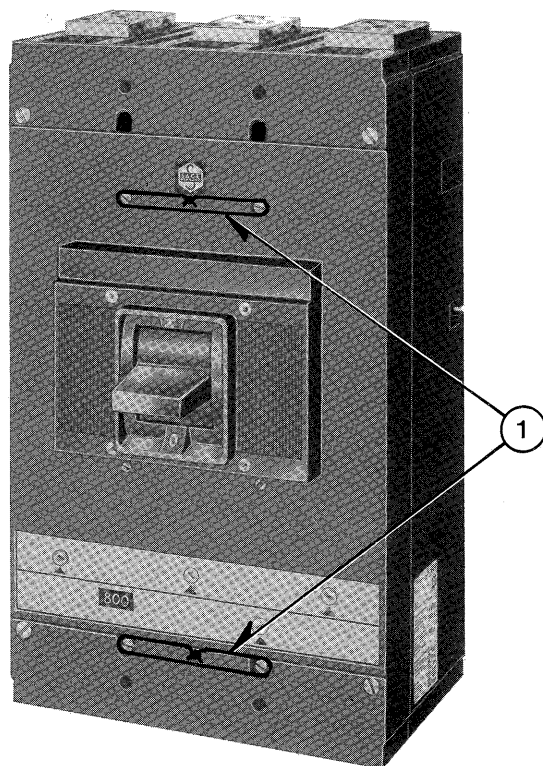
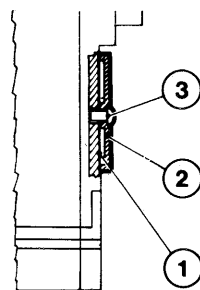

Fig. 34
Fig. 35
- e - fit the leaf spring (18) into proper slots
- f - disconnect the cable marked 2 from microswitch (19) and connect it to clamp 2 of microswitch (20) as shown on the figure
- g - connect one end marked 4 of cable (21), supplied with the breaker, to microswitch (19) and the other end to the clamp (1) of microswitch (20) as shown on the figure
- h - secure the microswitch (20) with the two self-tapping screws (22) to the operating mechanism case
- i - screw out screws (24) and remove flange (23)
- l - fit the rod (25) to proper seat and refit the flange (23)
- m - fit the motor mechanism to plate (5) and connect plug (8)
- with the breaker open if the key (13) is turned by 90°, it must be possible to remove the key from lock (12), the shaft (26) must be locked and the electrical circuit must be switched off
- with the breaker closed the key (13) cannot be turned : opening and closing operations must be permitted.
**9.9.4. Viti sigillabili** per impedire lo smontaggio del coperchio dell'interruttore (fig. 34)
- c - rimontare il coperchio e sigillare le viti infilando nei fori della testa, come in figura, un filo flessibile (1) piombandolo.
**9.10. Protezione trasparente** della scatola sganciatori termomagnetici : impedisce l'accesso alle manopole di regolazione (fig. 35)
- b - dall'interno attraverso i due fori laterali e il foro centrale con una punta bucare la targhetta autoadesiva (1)
- c - sistemare sul coperchio la protezione (2) come in figura e fissarla con i chiodini isolanti (3)
**9.9.4. Sealed screws** to prevent the breaker cover from being removed (fig. 34)
- c - refit the breaker cover, thread the heads of special screws with a wire (1) and seal
**9.10. Transparent protection** for thermo-magnetic releases, preventing the access to adjusting knobs (fig. 35)
- b - pierce the self-adhesive label (1) through the two side holes and the central one from the inside
- c - secure the protection (2) on the cover with the insulating nails (3) as shown on the figure